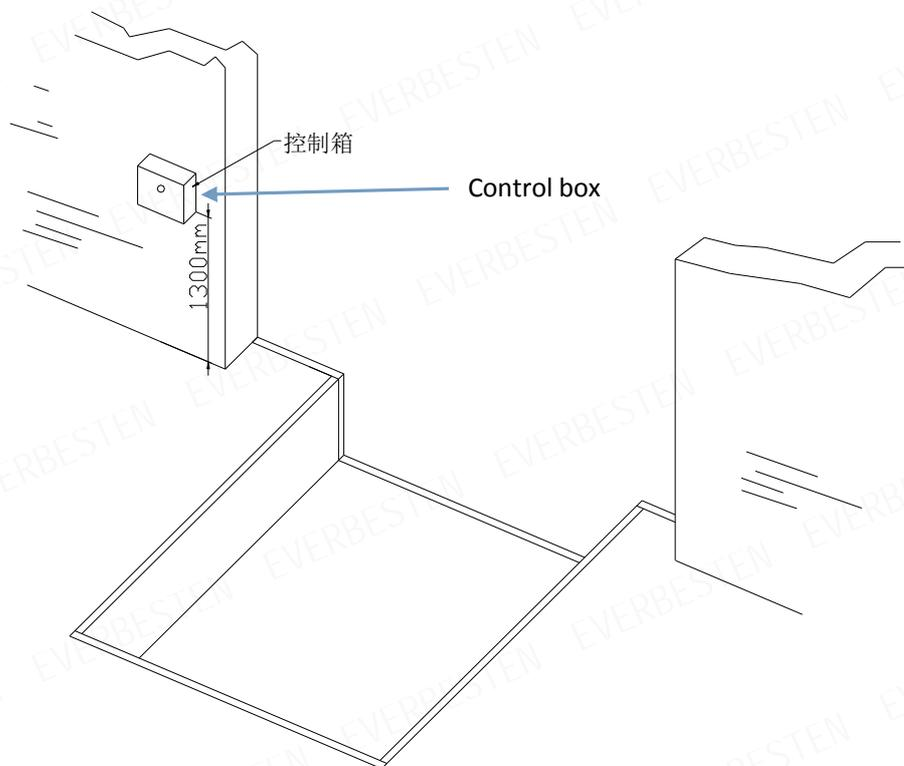

Figure-2
1. Installate the control box and link the wire to power supply. Normally, the position is at 1300mm above the concrete platform floor. (Figure-2).